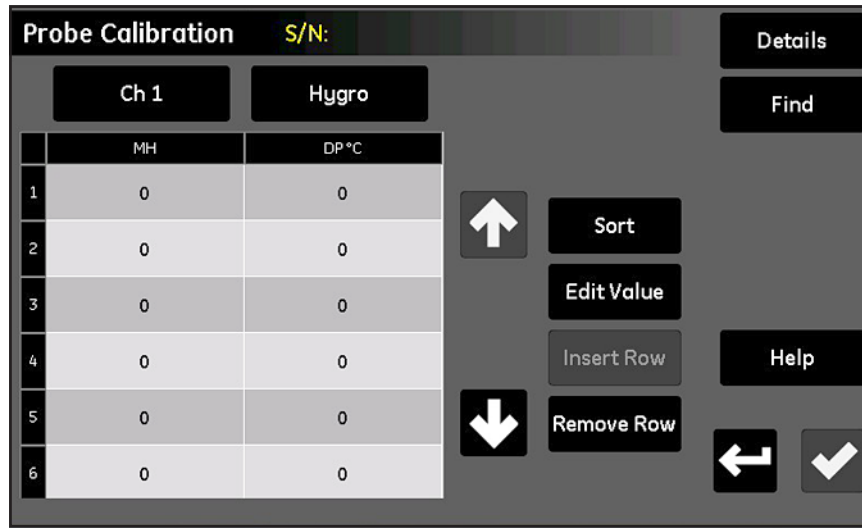

Figure 58: Probe Calibration Screen
1. From the *Configuration Menu*, tap the **Probe Calibration** button to open a *Probe Calibration* screen similar to *Figure 58 on page 67*. **Note that the serial number of the corresponding probe is listed at the top of the screen for reference.**